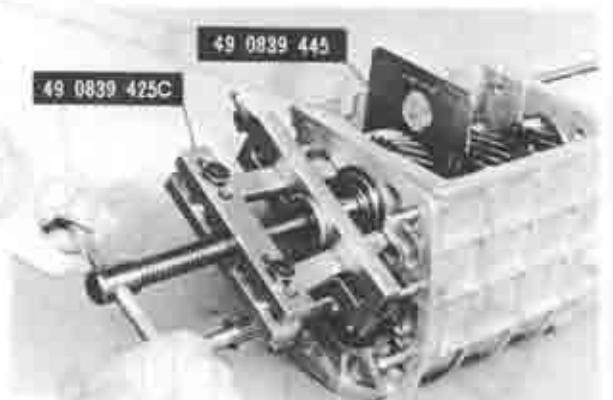

Fig. 7-6 Removing counter shaft front bearing
21. Install the **holder** (49 0839 445) between the fourth synchronizer ring and the synchromesh gear on the main drive shaft, as shown in Fig. 7-6.
22. Using the **puller** (49 0839 425C) as shown in Fig. 7-6, remove the counter shaft front bearing.